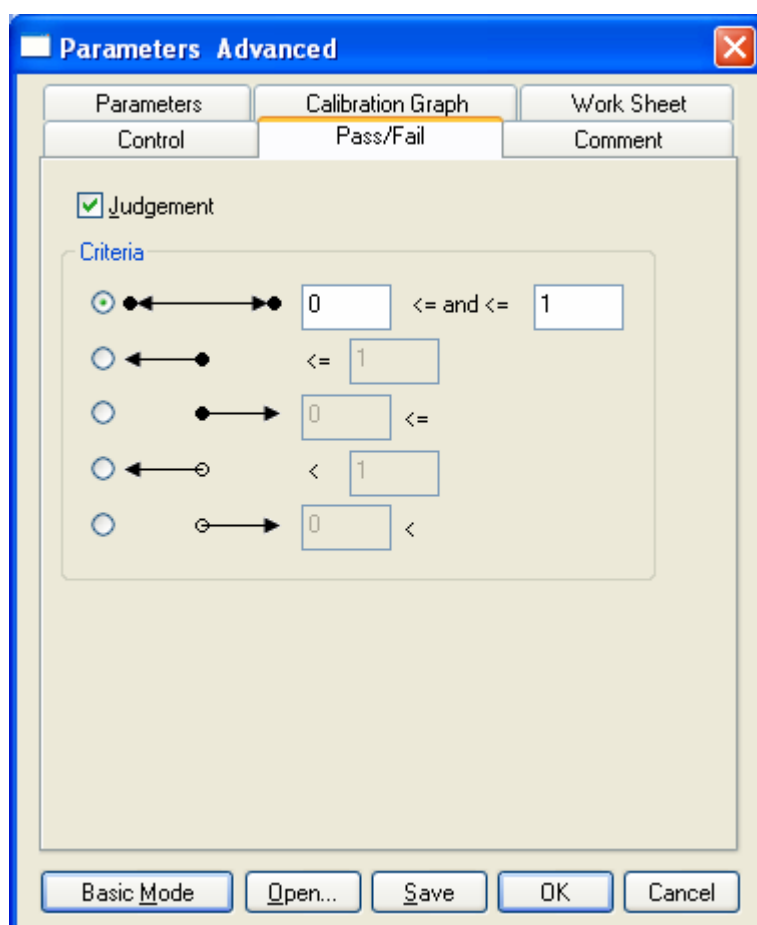

Figure 5.15 [Parameters Advanced] Dialog, [Pass/Fail] tab
- (5) Click the [Pass/Fail] tab and the window shown in Fig. 5.15 is displayed. The pass conditions for the concentration from the quantitative analysis results obtained from the Quantitative Analysis program are set in the [Pass/Fail] tab. In this example, $[0 \leq \text{and} \leq 1]$ is set.